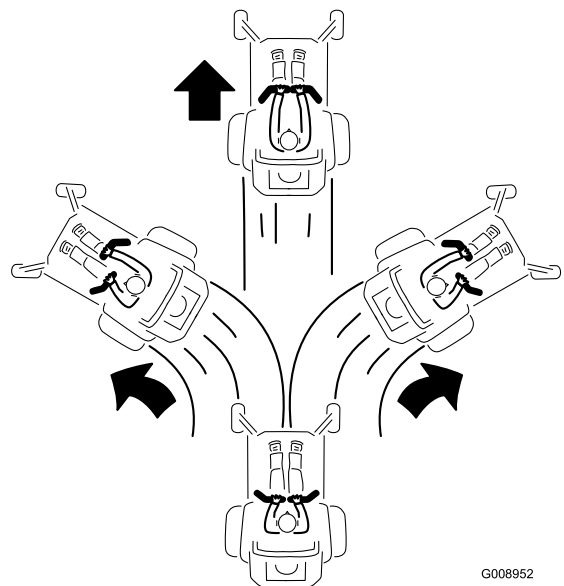

Figure 22
2. To go forward, slowly push the motion-control levers forward (Figure 22).